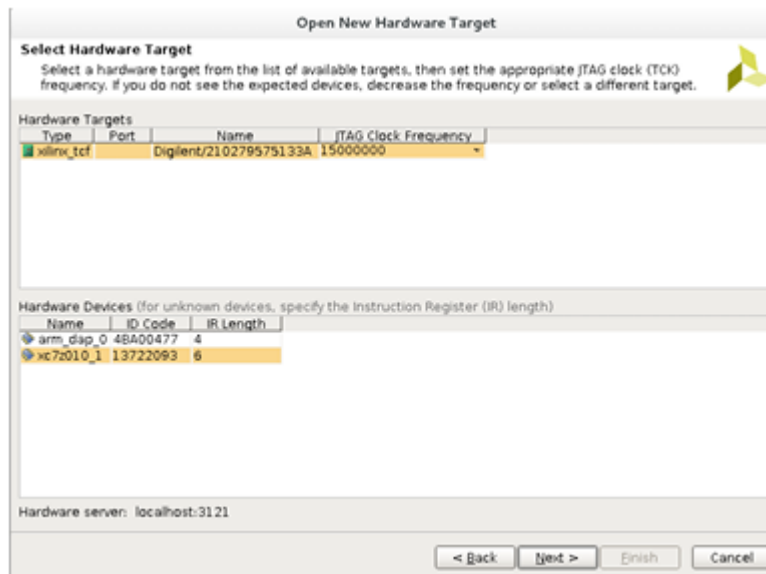

Figure 4: Hardware Target
- Once the bitstream generation is completed, we need to download the bitstream to the FPGA on the ZYBO board. Turn on the power to the ZYBO board and make sure that the jumper JP5 is set in 'JTAG' mode. In the 'Flow Navigator' window, under the 'Program and Debug' panel click on 'Open Hardware Manager'. Click on 'Open Target' and in the pop up select 'Open New Target' which will open the 'Open New Hardware Target' window. Click 'Next'. select 'Local Server' in the 'connect to' field. Click 'Next'. Select 'xilinx tcf' in Hardware Targets and 'xc7z010 1' in Hardware Devices as in (Figure 4). The 'arm dap 0' device is ARM Cortex Processor which is not needed for this lab. Click 'Next' and go through the summary and Click 'Finish'. Click on 'Program Device' under 'Hardware Manager' and select the FPGA 'xc7z010 1'. Click 'Program' to program the FPGA on the ZYBO board